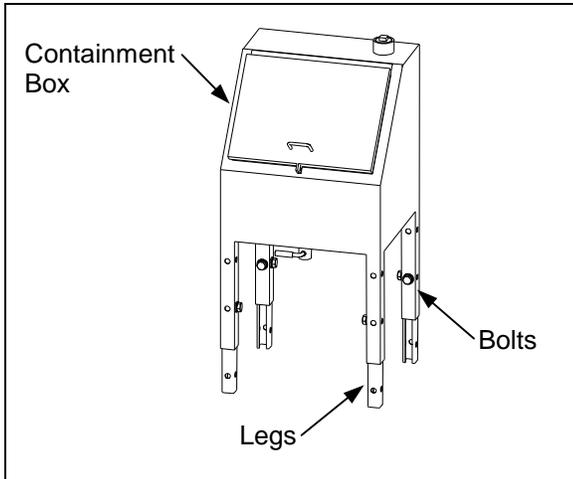

Figure 2
2. The legs are shipped with the small legs inside the outer legs. Using the included 3/8 – 16 bolts (quantity eight), bolt the large legs to the flanges on the bottom of the containment box. (See Figure 2.)